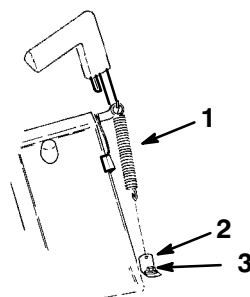

Figure 36
5. Secure the spring bracket and discharge tunnel to the lawn mower with the left front bolt (Fig. 36).
6. Hook the end of the spring through the small hole on the spring bracket (Fig. 36).